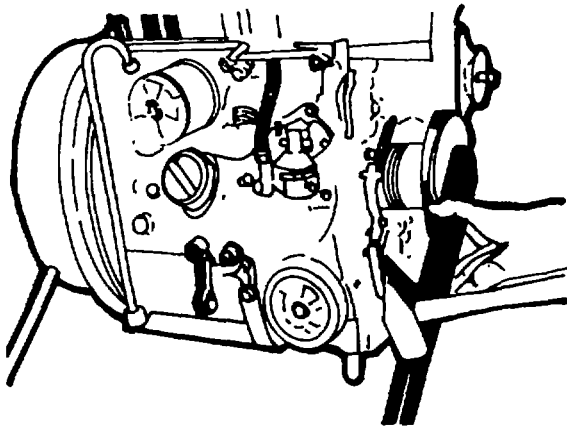

Figure 5-58. Remove Pulley Retaining Nut
1. Remove the V-belt and mark the position of the flywheel. Slacken and remove the nuts (figure 5-58) on the V-belt pulley using retainer No. 003-0446.